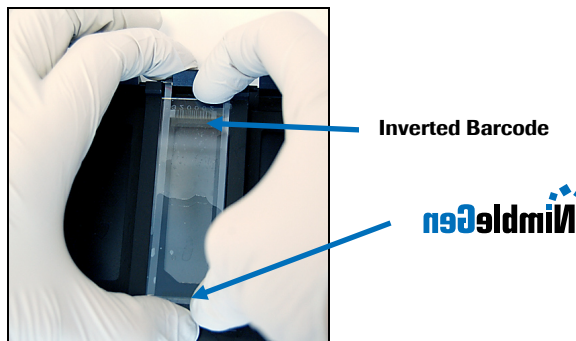

Figure 8. Placing the Microarray Slide, indicating appearance of etching when the slide is placed in the correct orientation.
9. Grip the microarray slide by the sides and place it array side down with the “NimbleGen” label next to the numbers etched in the Multifold Base, on top of the clear spacer (Figure 8). The slide should rest on the notch located near the numbers etched in the mounting plate. The barcode will be at the top of the slide.